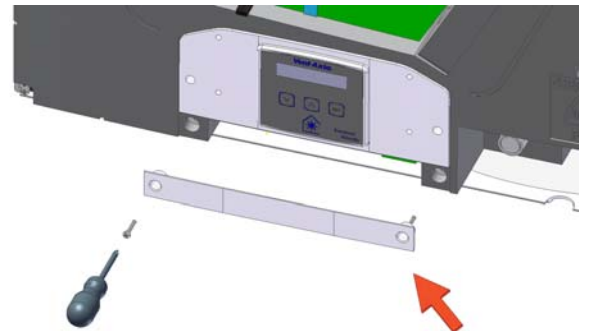

Figure 4: Detaching the Electrical Cover (Front of Unit)
2. Remove the 2 screws and detach the Electrical Cover from the front of the unit (see Figure 4).